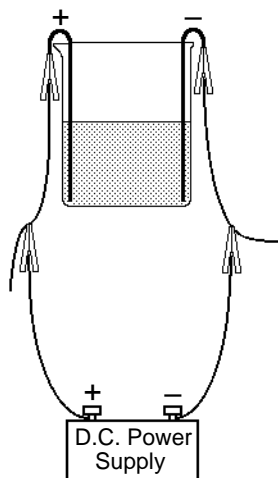
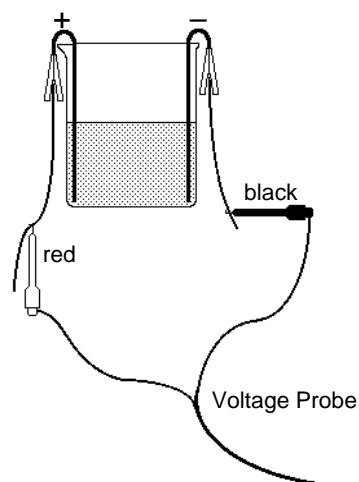

Figure 1
Figure 2
Two or more wet or dry cells connected in series make a battery. A car battery is generally a lead storage battery containing lead and lead oxide plates in sulfuric acid solution. In this experiment, you will construct a lead storage cell and use a direct-current power supply to charge it as shown in Figure 1. You will use a LabPro or CBL 2 interface and the voltage probe to measure the cell's voltage (see Figure 2), and then use the cell to power an electric motor.
2. Obtain two lead strips. If the strips have been used before, get one labeled (+) and one labeled (-). If the strips are not marked, label one (+) and the other (-). Bend the strips and place them in a 250-mL beaker as shown in Figure 1. Attach an alligator clip to each lead strip.
- b. If the calculator displays the VOLTAGE (V) in CH 1, proceed directly to Step 7. If it does not, continue with this step to set up your sensor manually.
- a. Attach the (-) lead from the power supply to the alligator clip on the (-) Pb electrode as shown in Figure 1.